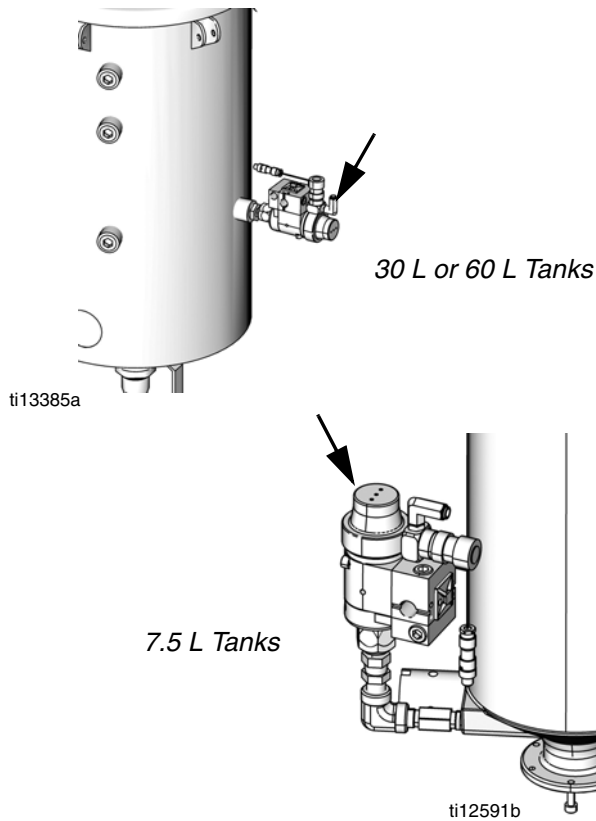

FIG. 7: Side Installation
The tank refill kit is shipped uninstalled. The tank refill kit can be installed on the lid of the tank or on the side of the tank. See FIG. 5 and FIG. 7.
1. Use PTFE tape and the fittings supplied to install the refill kit as shown in FIG. 7.